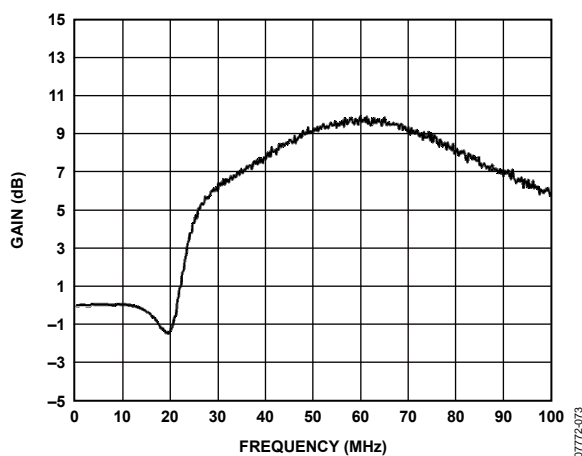
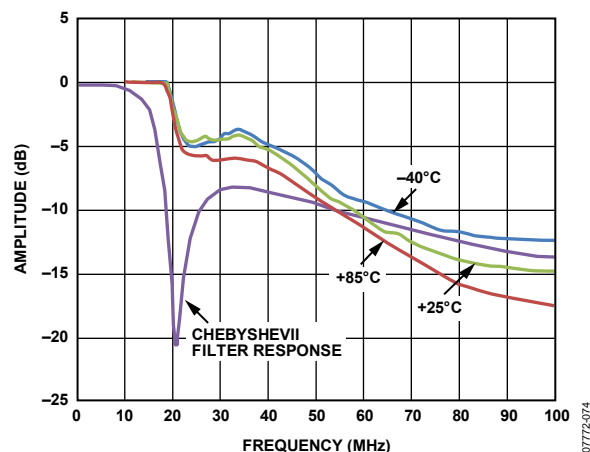

Figure 61. STF
Figure 62. Maximum Input Level for 3 dB Noise Degradation
Figure 61 shows the normalized STF of the AD9262 CT  $\Sigma$ - $\Delta$  converter. The figure shows out-of-band peaking beyond the band edge of the ADC. Within the 10 MHz band of interest, the STF is maximally flat with less than 0.1 dB of gain. Maximum peaking occurs at 60 MHz with 10 dB of gain. To put this into perspective, for a fixed input power, a 5 MHz in-band signal appears at  $-5$  dBFS, a 25 MHz tone appears at  $-2$  dBFS and 60 MHz tone at  $+5$  dBFS. Because the maximum input to the ADC is  $-2$  dBFS, large out-of-band signals can quickly saturate the system. This implies that, under these conditions, the digital outputs of the ADC no longer accurately represent the input. See the Overrange (OR) Condition section for details on over-range detection and recovery.
Figure 61 shows the gain profile of the AD9262, and this can be interpreted as the level at which the signal power should be scaled back to prevent an overload condition. This is the ultimate trip point and before this point is reached, the in-band noise (IBN) slowly degrades. As a result, it is recommended that the low-pass filter be designed to match the profile of Figure 62, which shows the maximum input signal for a 3 dB degradation of in-band noise. The input signal is attenuated to allow only 3 dB of noise degradation over frequency.
The noise performance is normalized to a  $-2$  dBFS in-band signal. The AD9262 STF and NTF are flat within the band of interest and should result in almost no change in input level and IBN. Beyond the bandwidth of the AD9262, out-of-band peaking adds gain to the system, therefore requiring the input power to be scaled back to prevent in-band noise degradation. The input power is scaled back to a point where only 3 dB of noise degradation is allowed, therefore resulting in the response shown in Figure 62.
In addition to matching the profile of Figure 62, group delay and channel matching are important filter design criteria. Low tolerance components are highly recommended for improved channel matching, which translates to minimal degradation in image rejection for quadrature systems.